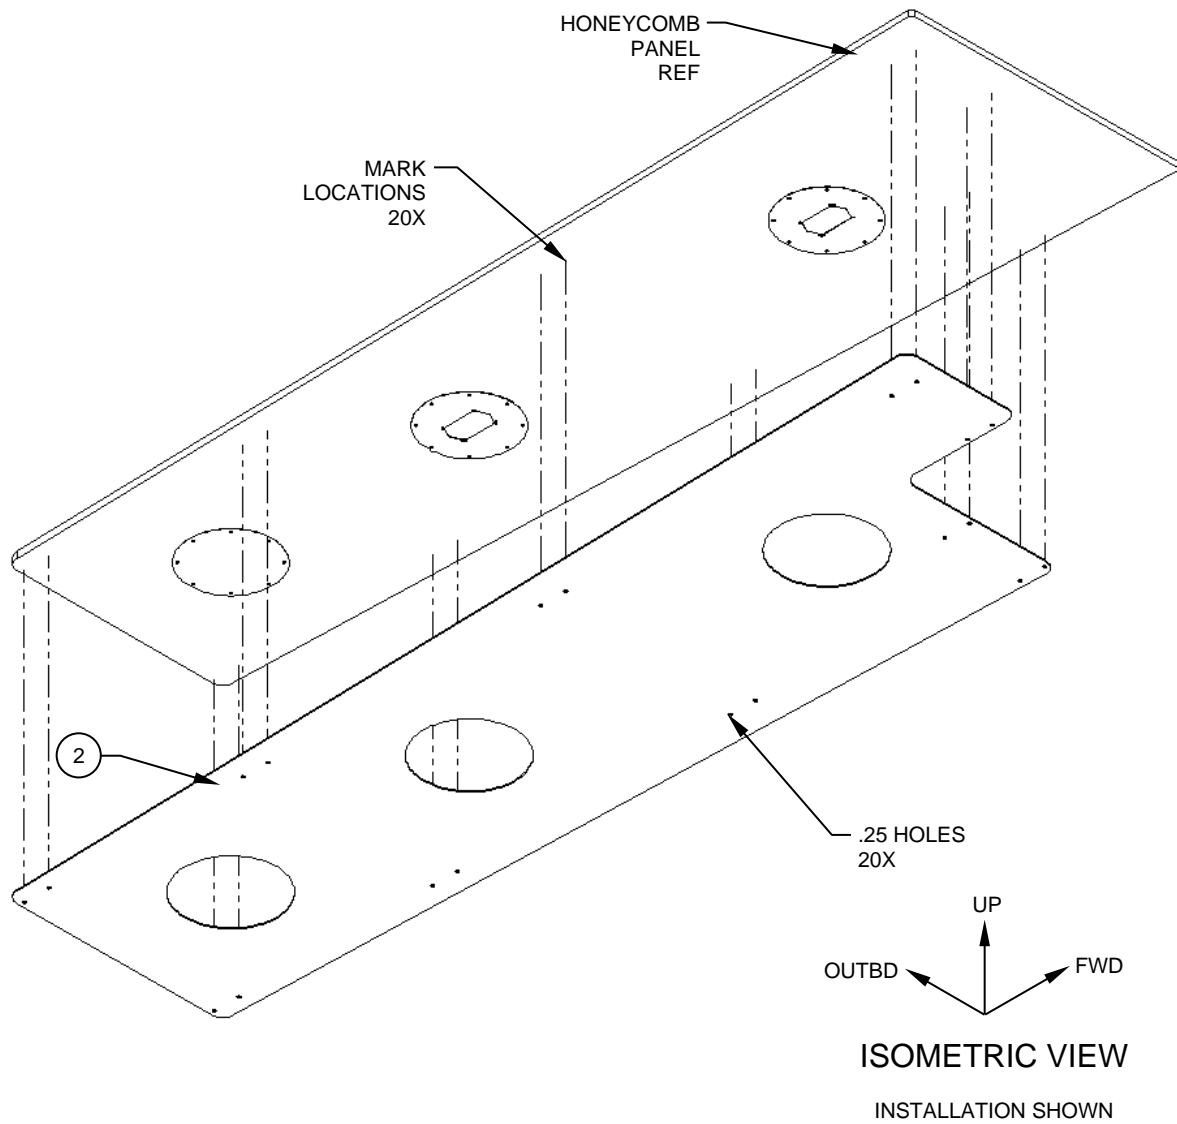

**Figure 4**
7. Pre-fit the Roof Panel, Detail (Assy 2) by lining up the circular cut outs with the circular light and inspection panel attached to the roof honeycomb panel. Reference Figure 4.